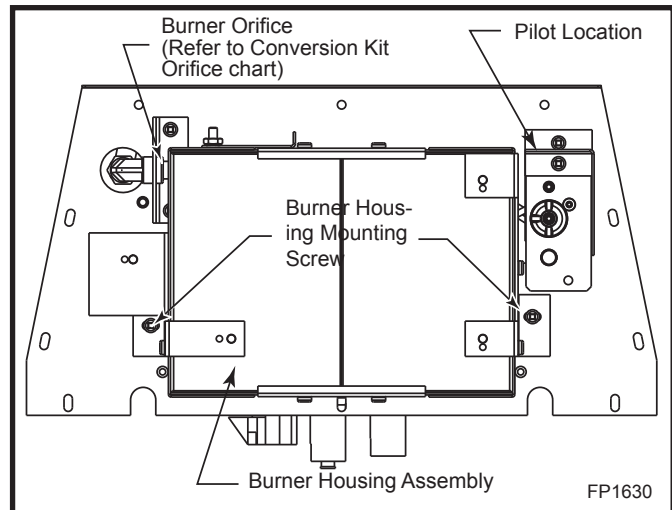

Fig. 39 Burner housing assembly.
1. Remove two (2) burner housing assembly mounting screws. (Fig. 39)
2. Lift burner housing up and remove burner orifice from manifold assembly using 7/16" wrench. (Fig. 39)